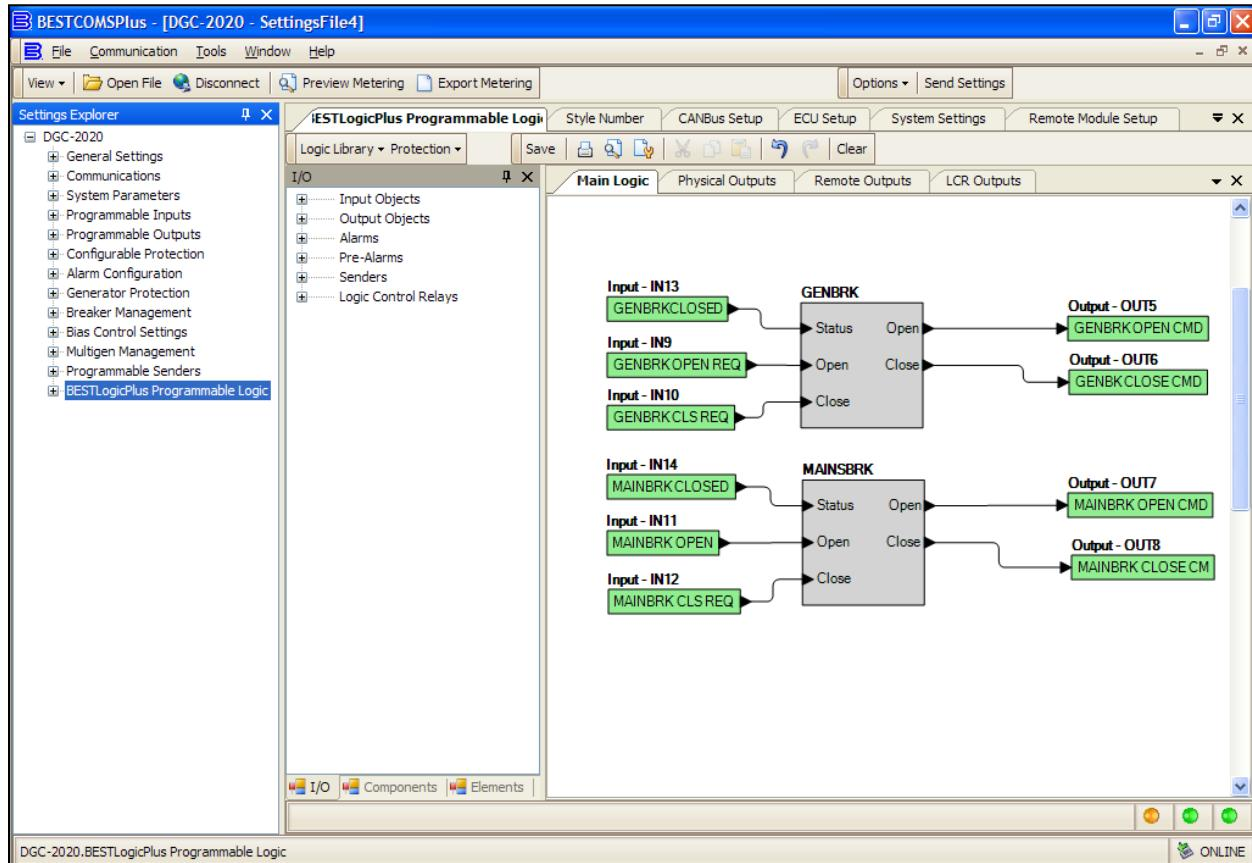

Figure 6-55. Settings Explorer, BESTLogicPlus Programmable Logic Settings
4. Set up the Gen Breaker in BESTLogicPlus Programmable Logic under SETTINGS EXPLORER→BESTLOGICPLUS PROGRAMMABLE LOGIC. See Figure 6-55.